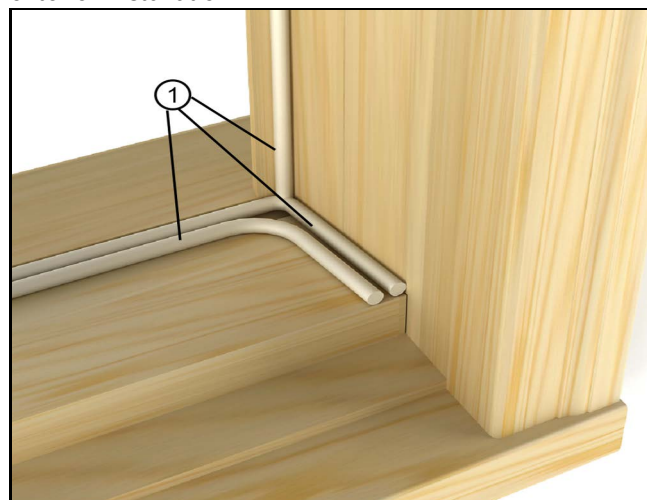

Figure 6
6. Apply a secondary continuous bead of sealant on sill as shown in Figure 6. *The placement of the secondary continuous bead of sealant is the same on interior and exterior installation.*